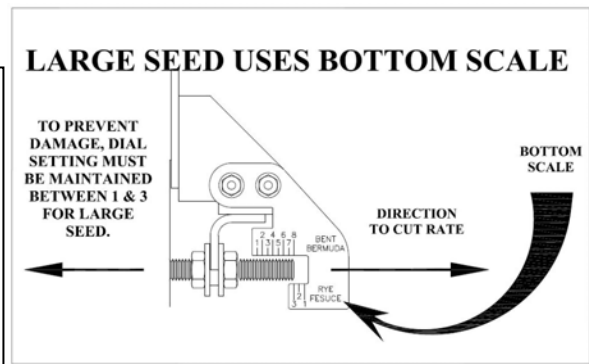

Figure 5a. Rate Adjustment
- Set the metering shaft using the screw adjustment on the right side of the box as shown in Figures 5a&b (both sides for 12' seeder).
***IMPORTANT: ADJUSTMENTS FOR LARGE AND SMALL SEED ARE DIFFERENT. PAY ATTENTION TO FIGURES 5a & b.***
- rotate hex nut until shaft bottoms out (Figure 5a)